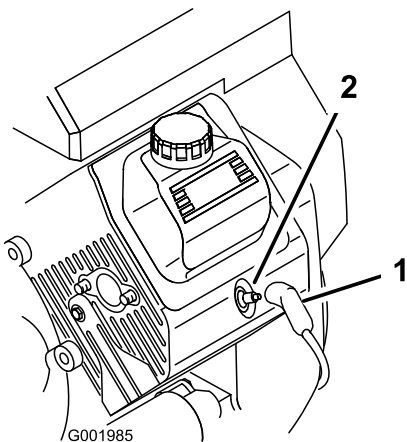

Figure 30
3. Pull the wires off the spark plugs (Figure 30).
3. Push the wires onto the spark plugs (Figure 30).